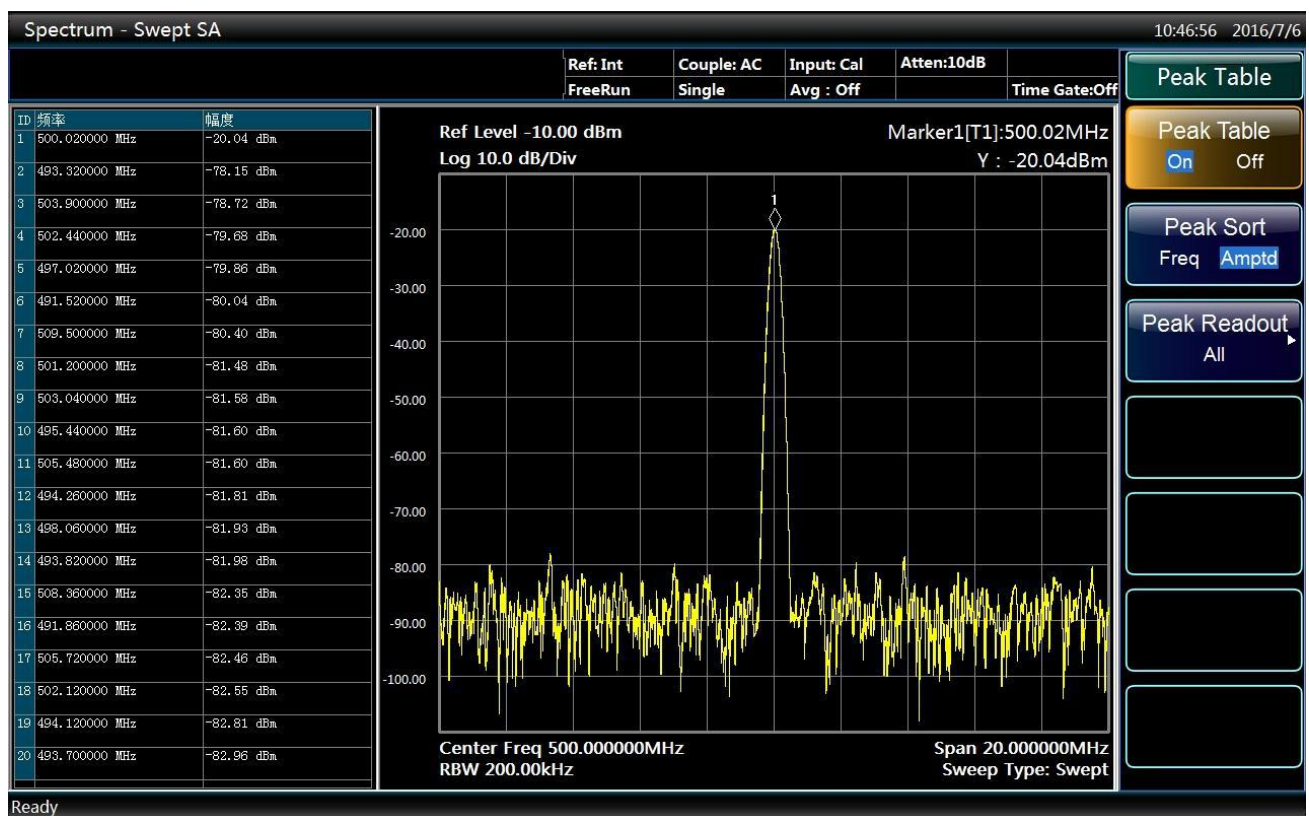

Fig. 3.21 The interface of opening peak table
- Press [More1/2], [Peak Table>>] and [Peak Table On/Off] to open a new window of marker peak list as shown in Fig. 3.21.